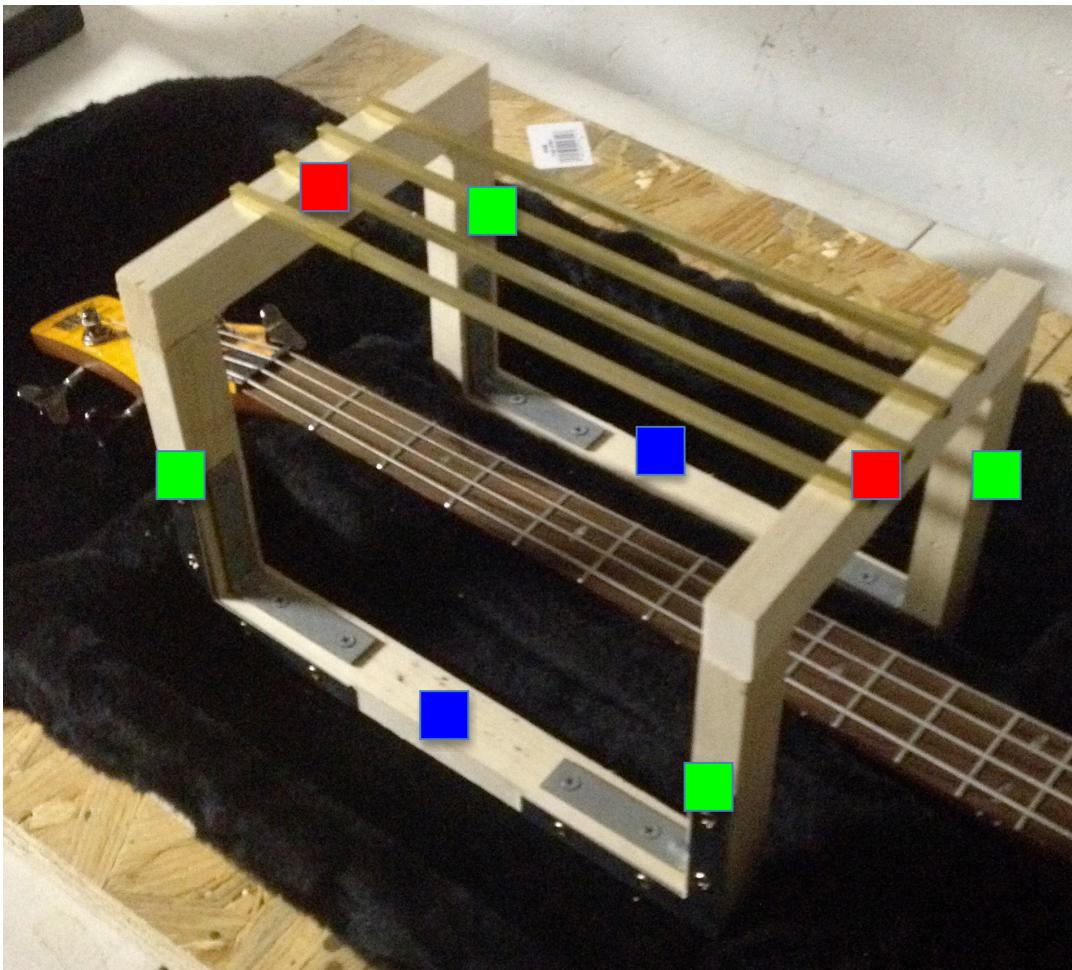
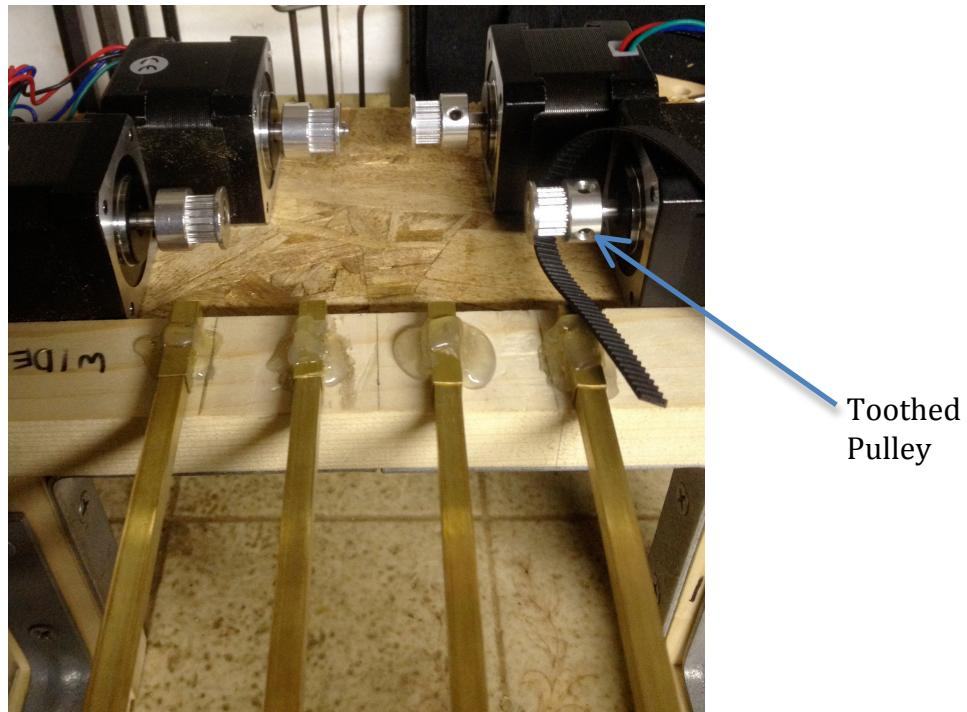

Figure 1
Figure 2
4. Assemble as shown in Figure 1 (• = 8.5" pieces, • = 3.4" pieces, • = 10.5" pieces)
9. With the bass underneath (Figure 1), place the smaller bars directly above/over the strings and fit 2 larger collars over each end. Glue the larger collars down so the smaller bars can slide in and out. (Figure 2).
10. Secure Stepper motors as shown in Figure 2 (can use 3D printed brackets).